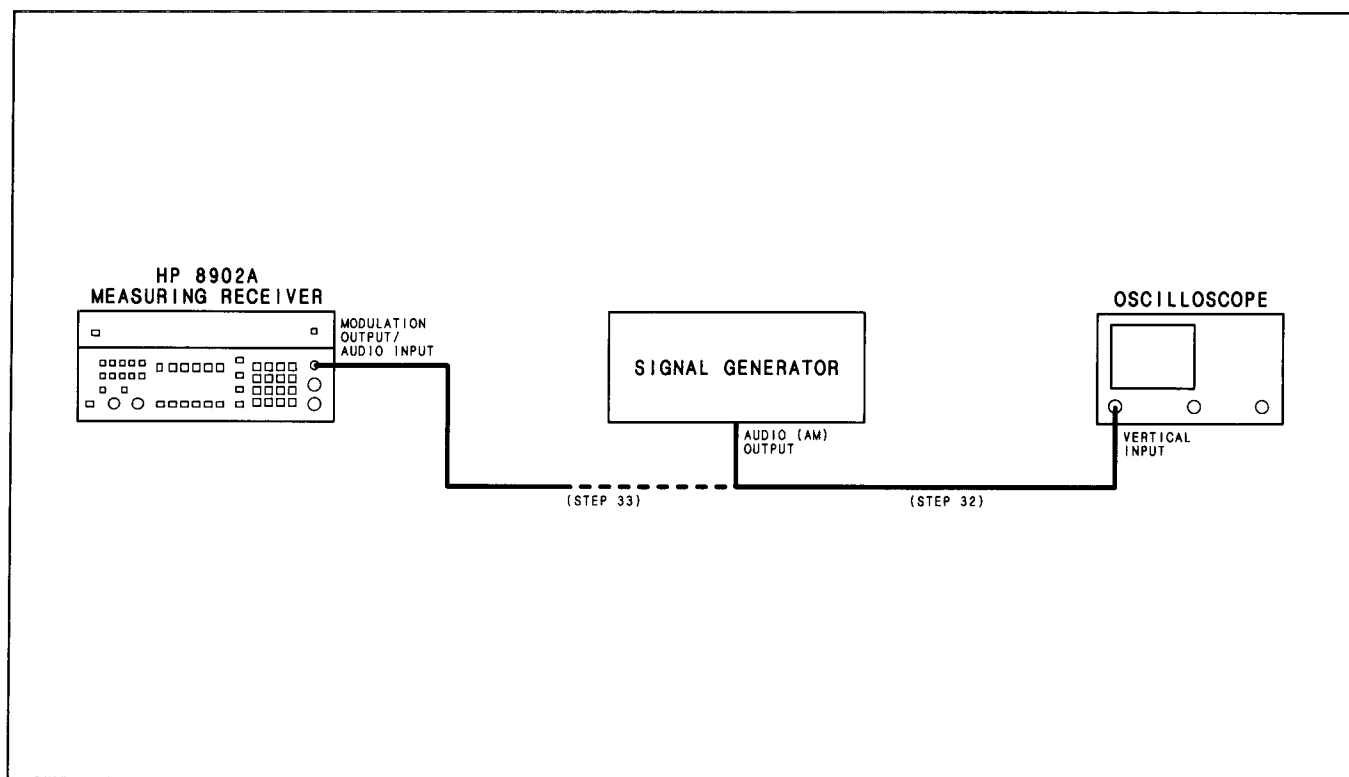

Figure 3-10. External Audio RMS Level Check Setup
32. Connect the audio (AM or trigger) output of the signal generator to the input of the oscilloscope. (See Figure 3-10.) Set the signal generator's audio output level for 3 Vpp as read on the oscilloscope.
33. Connect the audio output of the signal generator to the MODULATION OUTPUT/AUDIO INPUT of the Measuring Receiver. (See step 33 of Figure 3-10.) Key in 30.0 and press the SPCL key. If the display is in dB V, press the LOG/LIN key to display V. The Measuring Receiver's displayed level should be between 0.95 and 1.17V.